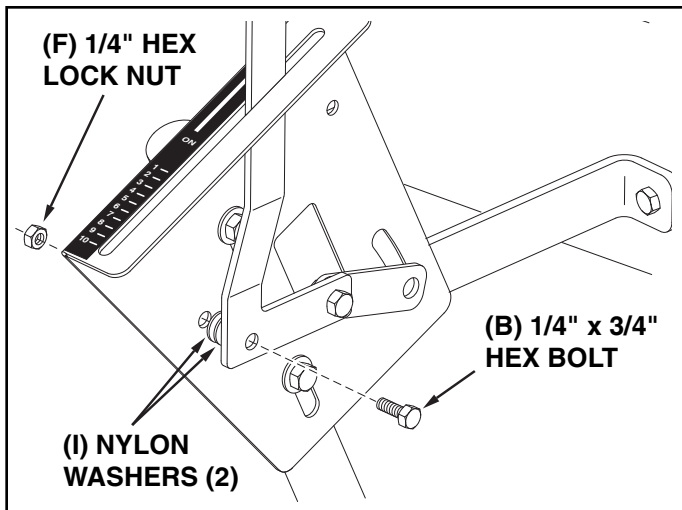

FIGURE 8
20. Assemble the flow control arm to the flow control mounting bracket using a 1/4" x 3/4" hex bolt (D), two nylon washers (I) and a 1/4" hex lock nut (F). **Tighten carefully.** The flow control arm should be snug but should pivot with no more than slight resistance. See figure 8.